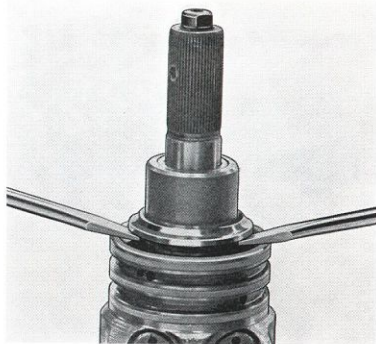

Fig. 6-81. Removing bearing sleeve
8. Clamp the worm between, for example, copper jaws in a vice. Remove the inner bearing sleeve (60) and the bearing (61), see Fig. 6-81. Remove all rings (62—67) from the worm.